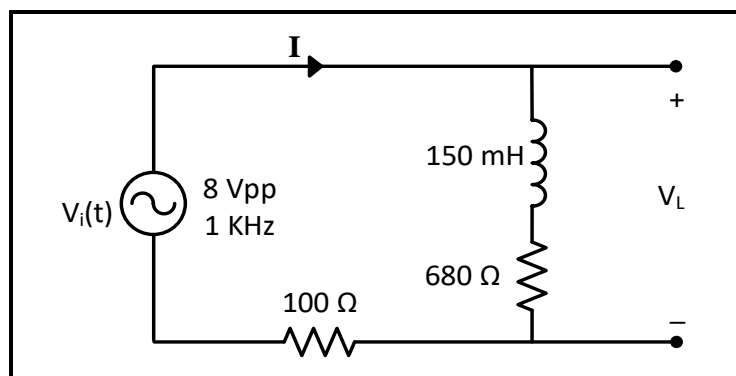
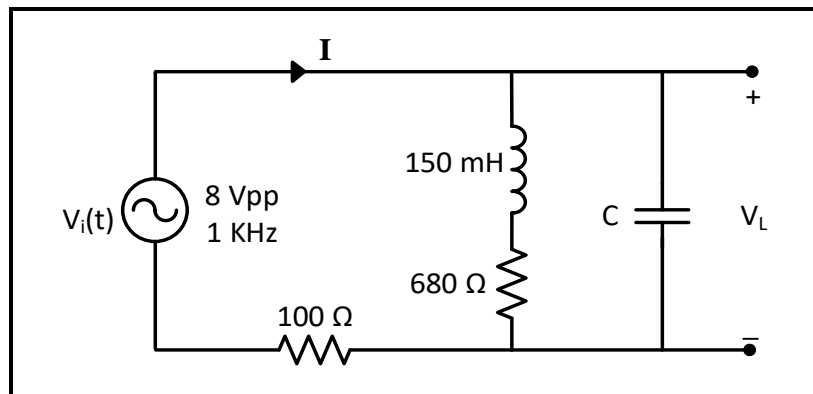

Figure 8.6
Figure 8.7
2. For the circuit of Figure 8.6:
- Use PSPICE to do transient analysis of the circuit in Figure 8.6, show $I(t)$ and $V_L(t)$ (indicated on circuit) on one graph, you will need different Y-axis, and measure the power factor (from the time difference between the two waveforms).
1. Connect the circuit of Figure 8.6, set the function generator to produce a sinusoidal voltage at 8 V_{pp} and $f = 1$ KHz.
1. For the circuit of figure 8.6: connect the capacitor value that you calculated in your prelab to correct the power factor to unity, in parallel with the load as shown in figure 8.7.